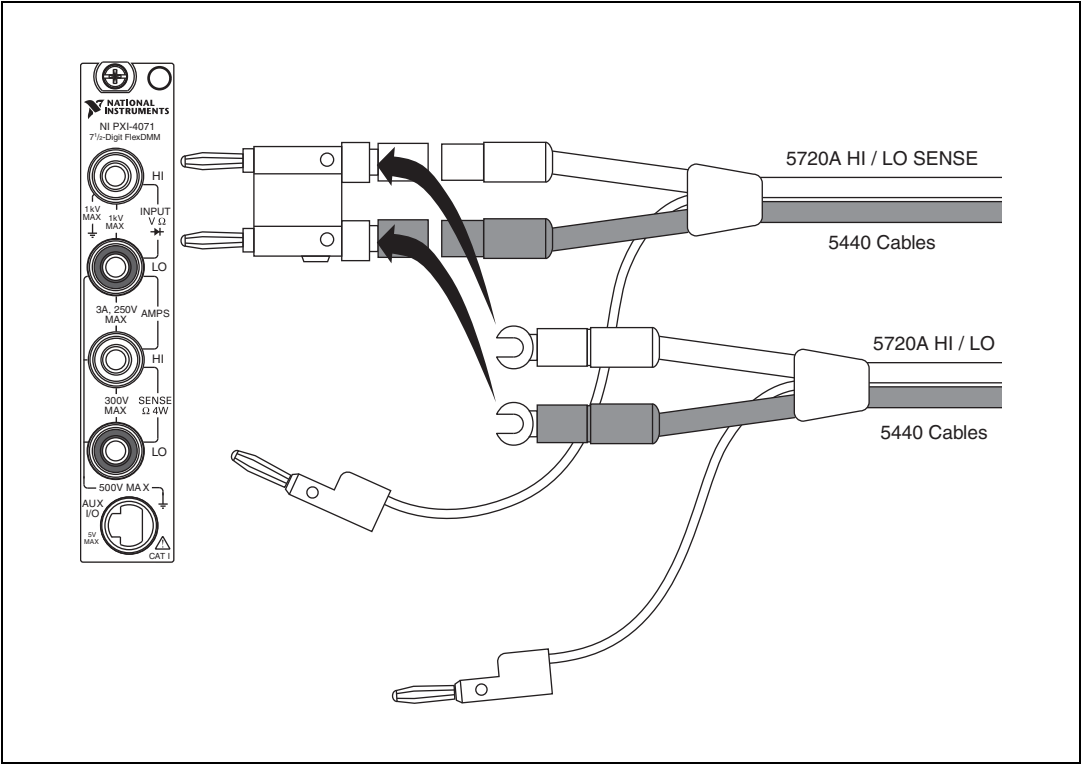

Figure 3. Cable Connections for 2-Wire Resistance
37. Connect the NI 4071 and the Fluke 5720A calibrator using two sets of Fluke 5440 cables, a double banana plug, and two insulated, low EMF spade lugs, as shown in Figure 3. Table 12 lists the cable connections.